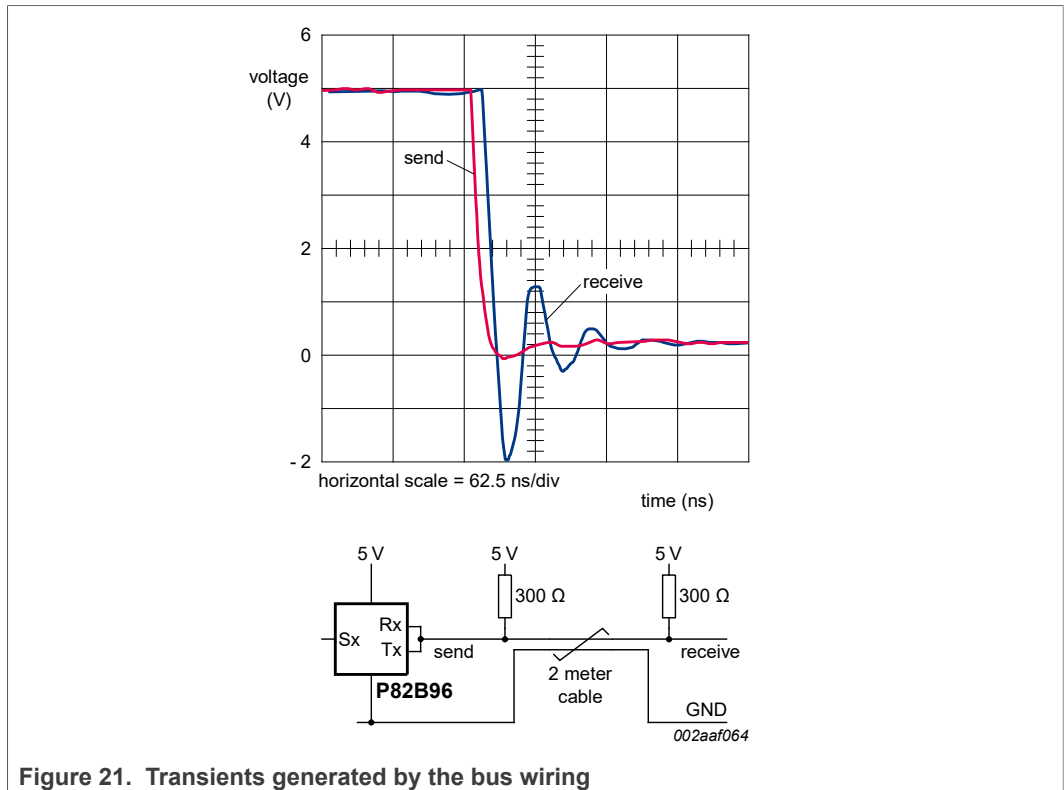

Figure 21. Transients generated by the bus wiring
**Answer:** For P82B96 the -0.3 V Absolute Maximum rating is not intended to apply to transients, it is a DC rating. As shown in Figure 21, there is no theoretical reason for any undershoot at the IC that is driving the bus LOW and no significant undershoot should be observed when using reasonable care with the ground connection of the 'scope. It is more likely that undershoot observed at a driving P82B96 is caused by local stray inductance and capacitance in the circuit and by the oscilloscope connections. As shown, undershoot will be generated by PCB traces, wiring, or cables driven by a P82B96 because the allowed value of the I2C-bus pull-up resistor generally is larger than that required to correctly terminate the wiring. In this example, with no IC connected at the end of the wiring, the undershoot is about 2 V.